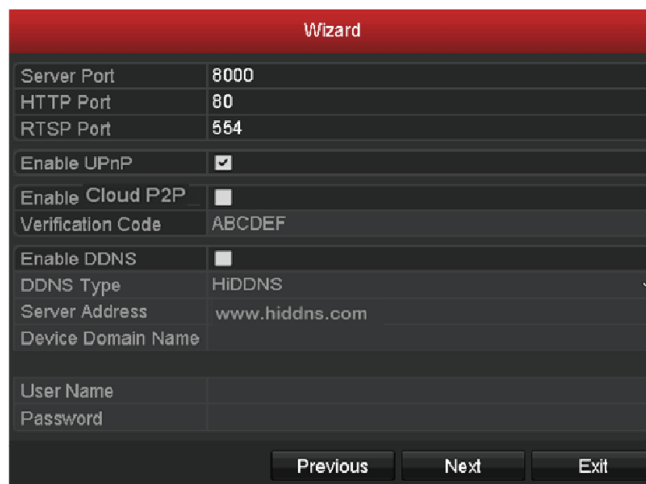

Figure 2. 8 Advanced Network Configuration
10. Click **Next** button after configuring the advanced network parameters, which will take you to the **HDD Management** window, shown in Figure 2. 9.